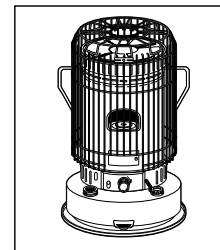

Fig.9
**G) Now your heater is completely assembled:** (Fig.9)